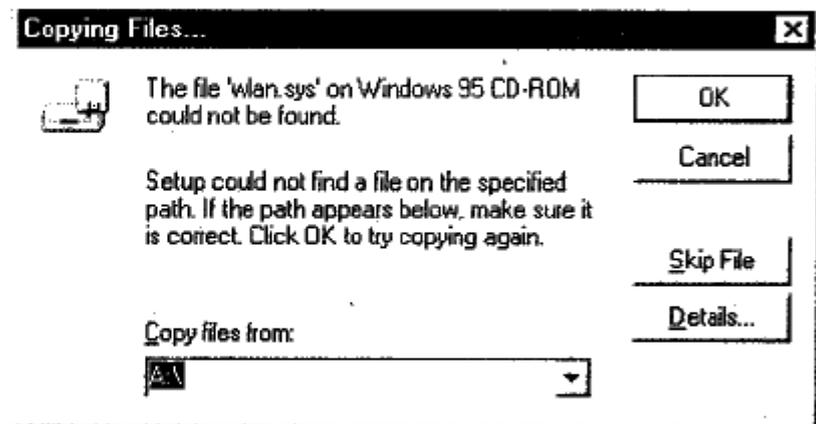

Figure 3-7
9. The computer will load the PC Card Driver from floppy drive A automatically. In the "Copying Files" dialog box. Enter the location (e.g. "A:\") of the PC Card driver as shown in Figure 3-7.